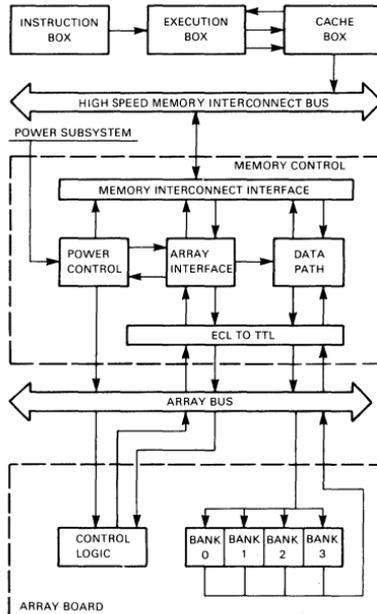

Figure 2-11 ■ Memory Box Block Diagram
The memory subsystem (M) box consists of a memory control logic module, from one to eight memory array boards, and a memory array bus. See Figure 2-11 for a block diagram of the Mbox with one array board.